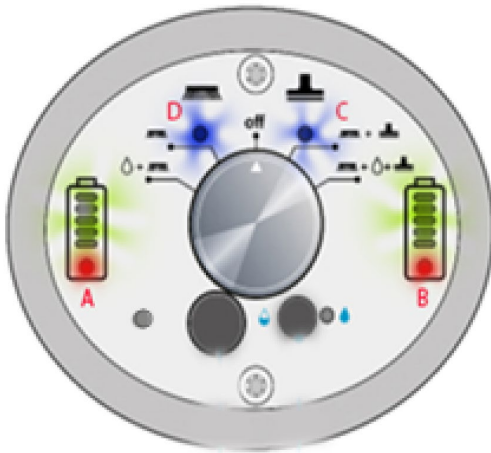

Figure 20B
11. For short term parking of the machine i-mop® has a built in timer to manage and guarantee it's durability on brushes. The operator shouldn't park the machine too long on it's brushes to avoid damage to the brushes. The display will start to light up as indicated in **figure 20B**. After 9.5 minutes the lights indicated on A,B,C,D start blinking.